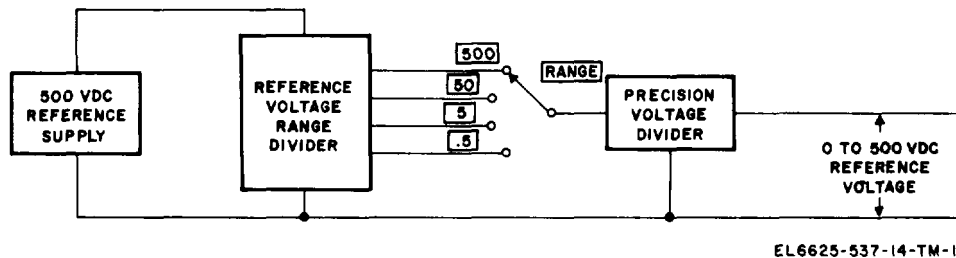

Figure 5-4. 0- to 500- volt dc reference supply, block, diagram.
a. *Block Diagram* (fig. 5-4). The 0- to 500-volt dc reference supply consists of a 500-volt dc reference supply, a reference voltage range divider and a precision voltage divider. The 500-volt dc reference supply is a conventional series regulated power supply with single stage regulation. It is calibrated by comparing a